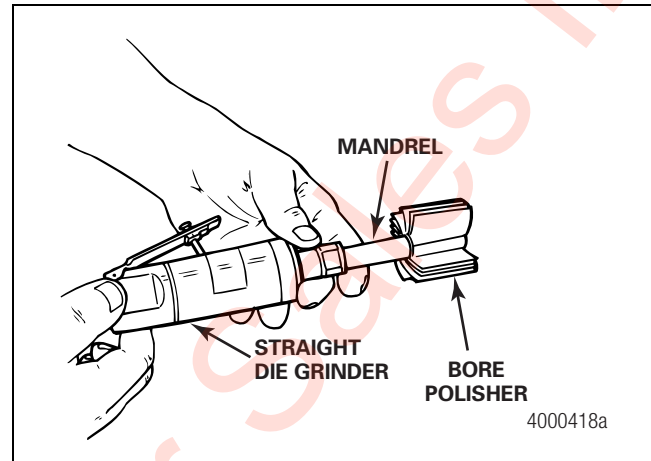

Figure 2.9
6. Choose the correct sized bore polisher by matching the axle manufacturer and model to the bore polishing tools listed in Section 7. Figure 2.9.